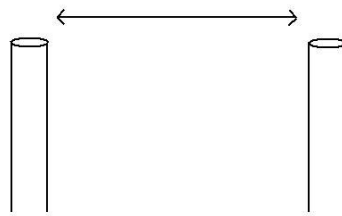

Fig 2
2. The supply pipe work can be plumbed either from above or below but must finish at the suitable connections which will be approximately 150mm centres (Fig 2). Allowance should be made for some adjustment when fitting the valve.